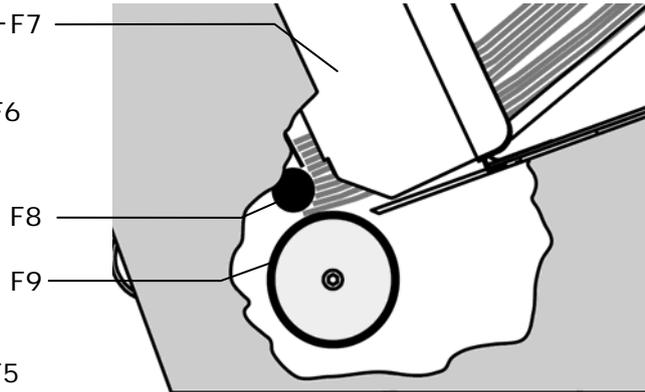

Figure 14: Filing the stack with a fanned out pile, side view
- The paper stack should adapt to the shape of the fixed separator roller (F8) (see Figure 14).